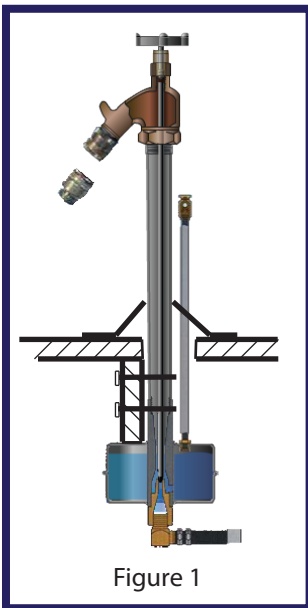

Figure 1
- Remove backflow preventer at quick disconnect (Figure 1)